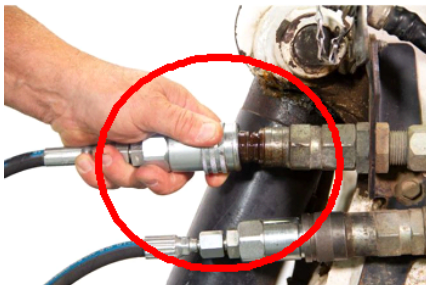

Figure 1
2. Attach hydraulic quick couplers to those on skid steer. (shown in figure1)